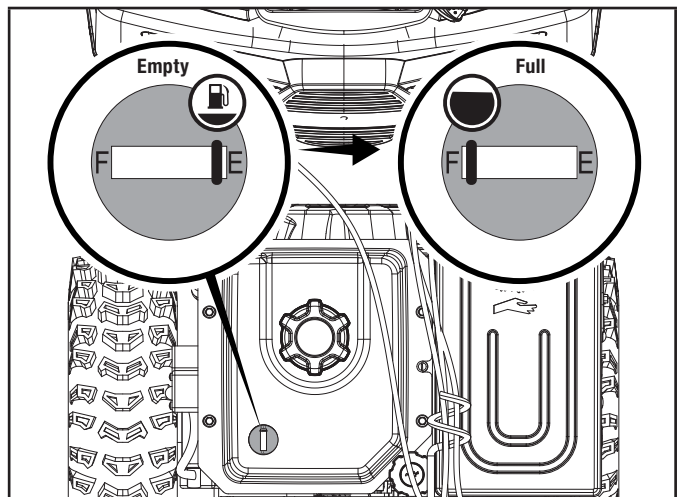

Figure 9
- The approximate fuel level is shown on the fuel gauge on top of the fuel tank. Wipe up spilled fuel before starting the snowblower. Fuel tank capacity: 1.5 gal. (5.8 L) (Fig. 9).